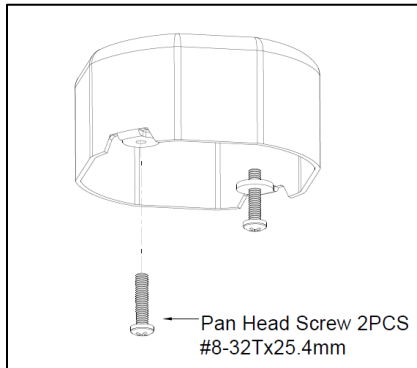

Figure 8
1. Install two screws (1) into threaded holes in junction box with screw head 1/4 from being flush with the ceiling. (See Figure 8)